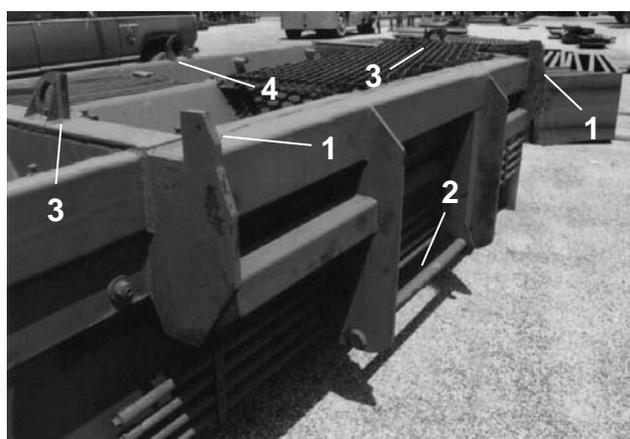

Figure 1. Rear of Hopper
1. By hooking a lifting sling into the two rear lifting eyes, the hopper can be tilted forward while being raised, allowing the hopper carrying shafts to engage the hopper carrying arms on the Chipspreader. (Figure 1 & 2) Lower hopper slowly until lifting sling can be disconnected.